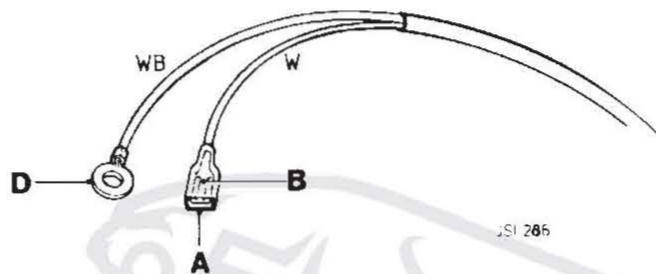

FIG 3
5. Modify the existing ignition harness by cutting off the terminals. Fit lucar connector (GHF 2051) and sleeve (GHF 2151) A & B, Fig. 3 to the white (W) wire and eyelet (GHF 2431) D, Fig. 3 to the white/black (WB) wire. Connect the white (W) wire to the ballast resistor.